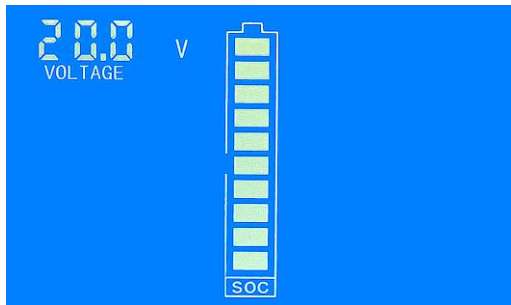
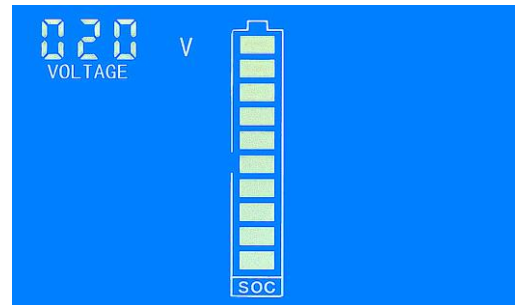

Figure 3: full voltage setting interface (low bit)
Figure 4: full voltage setting interface (high bit)
Step 2: SET character blink present it is the setting status of full / cut-off voltage, long press the button until the LCD screen displays the interface like fig. 3, then release the button.
Step 3: At this time, the battery symbol displays full grids energy means the full voltage setting status, factory default full voltage is 020.0V, the numerical code circulation flashing from the low bit to the high bit shows that the current setting digit, short press to set the digit; please pay attention that, as the full voltage setting value has 4 digits, but the numerical code has only 3 digits, so the setting is divided into two parts: low bit (fig. 3) + high bit (fig. 4). For example, the default full voltage is 020.0V, then the display state is 20.0V to 020V low and high cyclic switching display. If you need to set the full voltage is 199.0V, then please set the low bit to 99.0V, when the cycle reaches the high bit, it will display 099V, and only the highest zero bit flickers to prompt it can be set. Setting the high bit to 199V represents the full voltage is 199.0V.